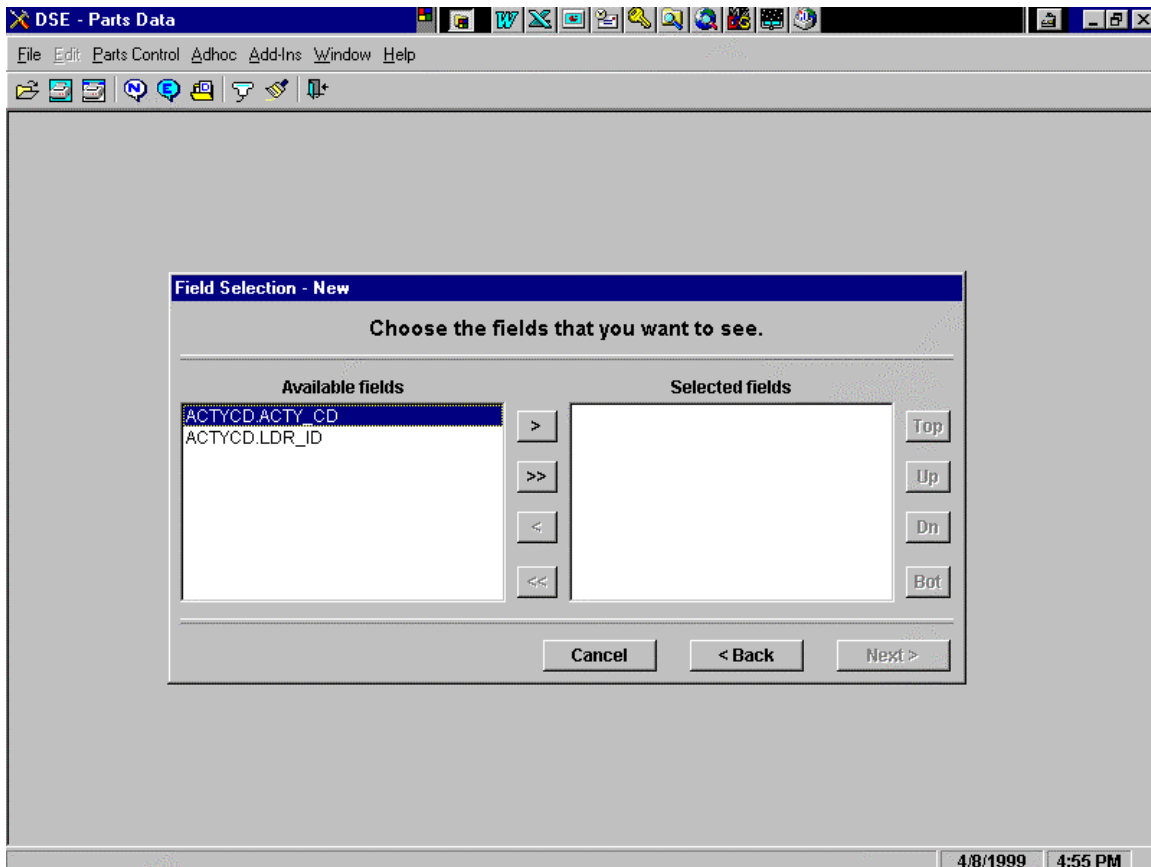

Figure 5.3d
(2) Data Element Selection - See Figure 5.3d. After clicking on Next>, the system will retrieve the data element fields available on the table or table(s) you selected. You may now select the elements you want to be part of your output (displayed after your query is input). Highlight as before and then click > to move to Selected Fields area. The >> button will move all fields at once. Double-clicking on the element will also move back and forth.